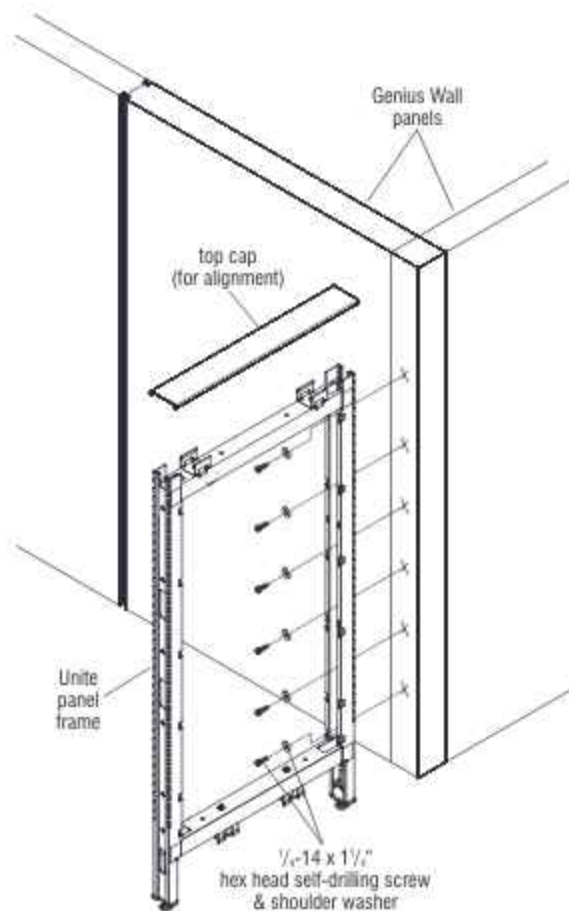

Figure 23 - Unite-to-Genius Wall Universal
1. Position Unite Panel frame up to Genius Wall at the desired installation location. If installing to a corner (Figure 23), temporarily install a top cap to the top of the Unite panel frame. Use the width of the installed top cap to align the frame location for flush mounting to corner locations (Figure 23).
2. Properly plumb and align the Unite panel frame to the mounting location, then using six  $\frac{1}{4}$ -14 x  $1\frac{1}{4}$ " hex head self-drilling screws & shoulder washers, run the self-drilling screws through the Unite panel frame mounting locations, and into the aluminum trim of the Genius Wall (Figure 23).